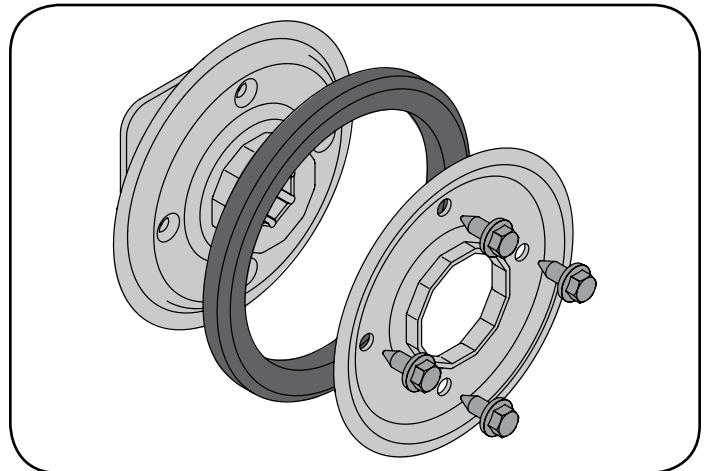

Figure 62
- Remove the four screws which secure the friction wheel's side plates together. See Figure 62.